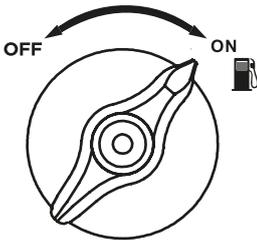

Figure 7: Turn Fuel Switch to ON Position
5. Turn the Fuel Control Switch to the **ON(RUN)** position (see Figure 7).
4. Confirm that the Fuel Control Switch is in the **ON** position (see Figure 7).